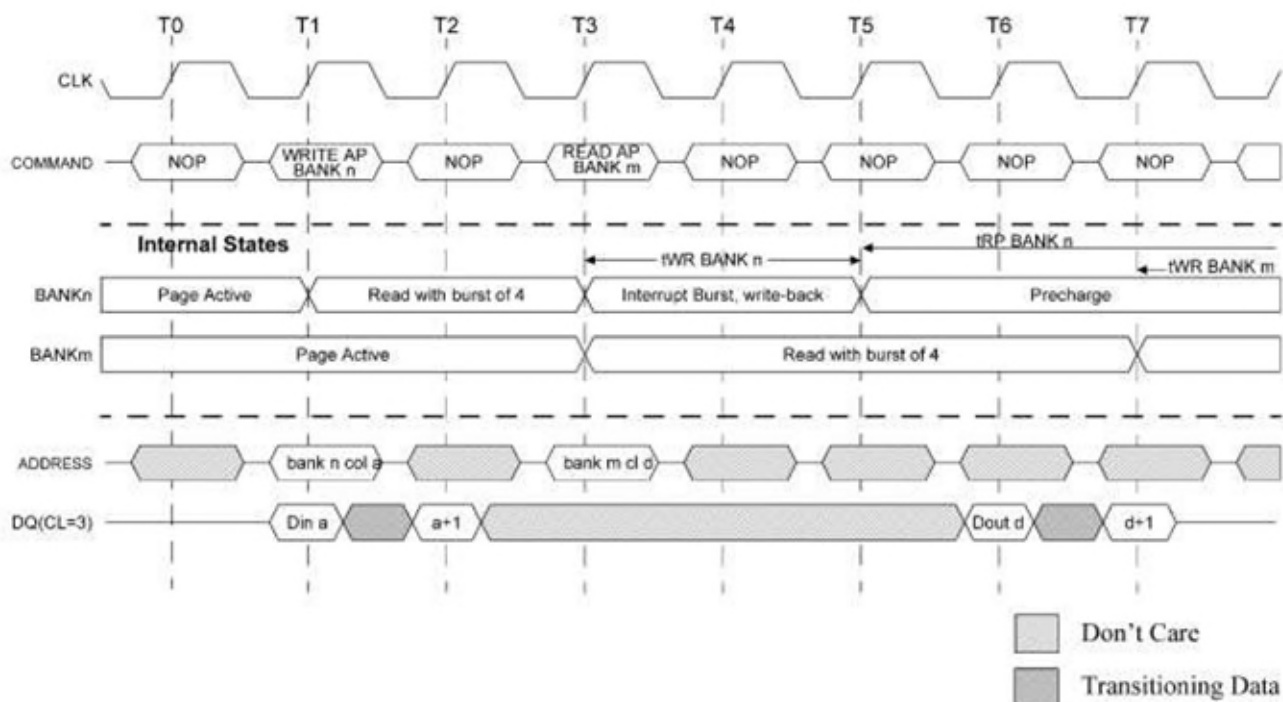

Figure 29: WRITE with Auto Precharge Interrupted by a READ
Interrupted by a WRITE (with or without auto precharge): A WRITE to bank m interrupts a READ on bank n when registered. DQM should be used two clocks prior to the WRITE command to prevent bus contention. The PRECHARGE to bank n will begin when the WRITE to bank m is registered (see Figure 29).
Interrupted by a READ (with or without auto precharge): A READ to bank m interrupts a WRITE on bank n when registered, with the data-out appearing CL later. The PRECHARGE to bank n begins after tWR is met, where tWR begins when the READ to bank m is registered. The last valid WRITE to bank n will be data-in registered one clock prior to the READ to bank m (see Figure 29).
16. For a WRITE with auto precharge interrupted by a READ (with or without auto precharge), the READ to bank *m* interrupts the WRITE on bank *n* when registered, with the data-out appearing C_L later. The PRECHARGE to bank *n* will begin after tWR is met, where tWR begins when the READ to bank *m* is registered. The last valid WRITE to bank *n* will be datain registered one clock prior to the READ to bank *m* (Figure 29).